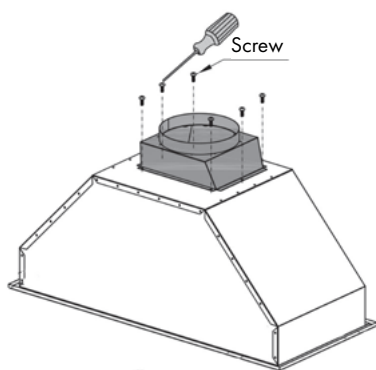

Figure 1
1. Unpack contents of the hood. Attach transition piece and ducting to the top of the range hood insert. *Figure 1*